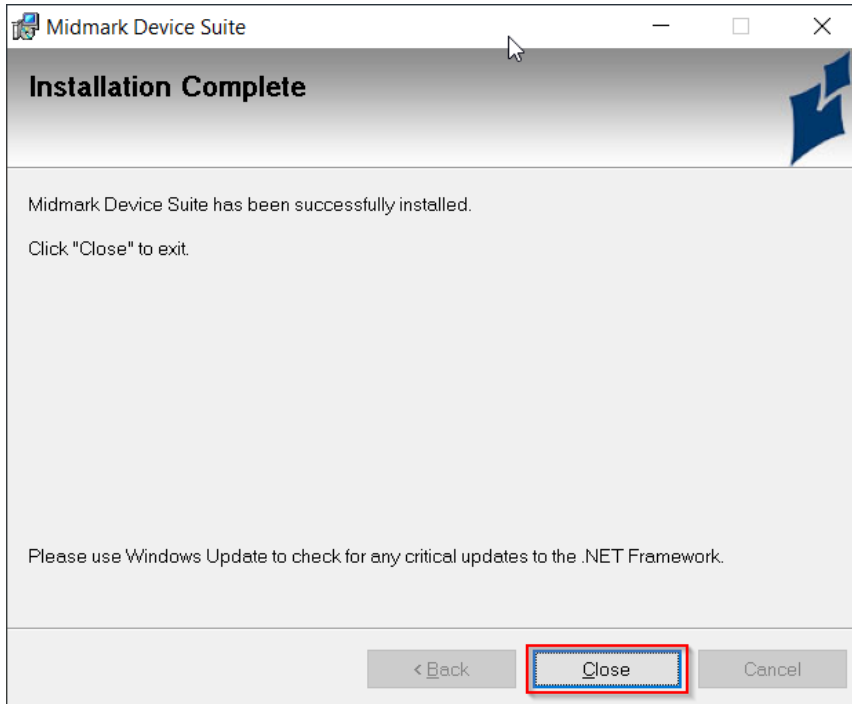

Figure 11. The “Installation Complete” window.
- When the installation is complete, the pop-up shown in Figure 11 below appears. Click the “Close” button.